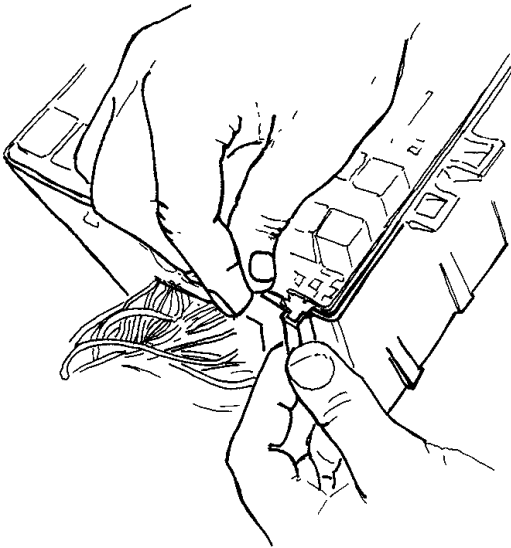

Figure 11 Remove P.D.C. Fuse Block Box Side Door
13. Remove the side door of the fuse box by prying up on the ears of the door (Figure 11).